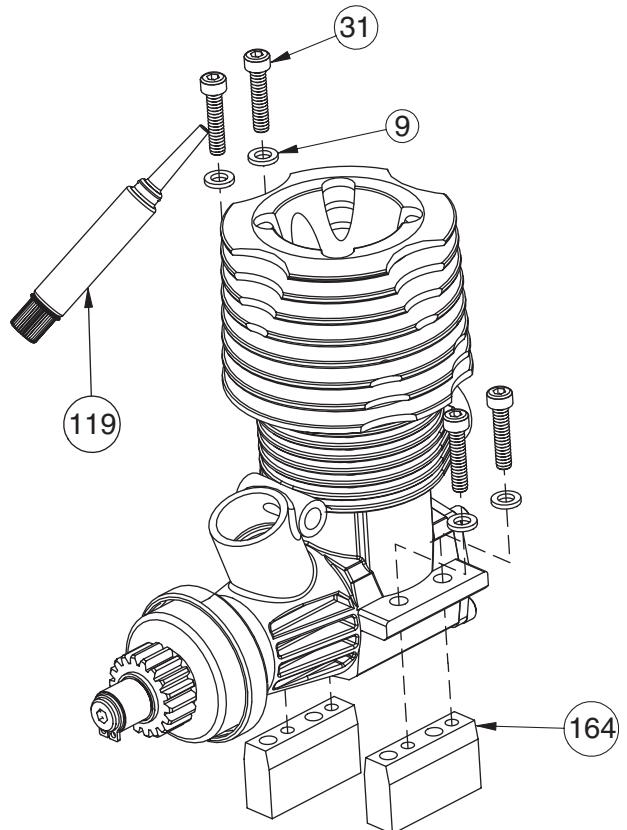

Figure H-6
\*NOTE: The two Engine Mounts should be positioned with the narrow end up as shown in Figure H-6.
**IMPORTANT NOTE:** Make sure that the Engine Mounts are installed correctly as indicated in Figure H-6. The larger holes should be positioned toward the front of the engine, and the four Screws should be installed into the smaller holes.